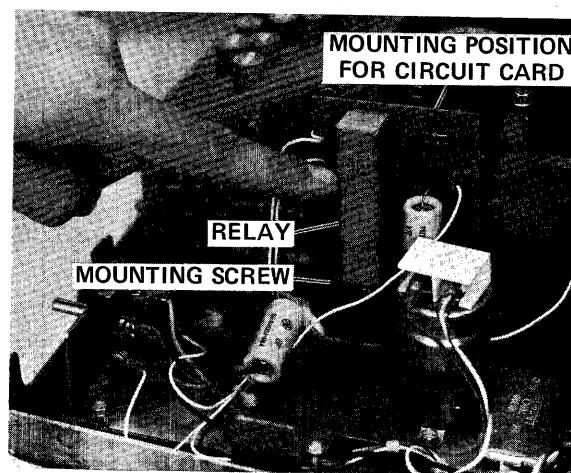
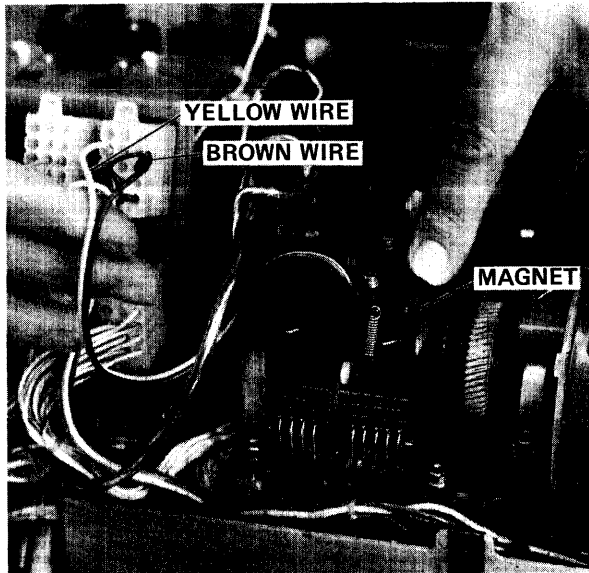

Figure 1. Relay Circuit (Alternate)
Figure 2. Distributor Trip Magnet
4. A relay circuit must be introduced into the paper tape reader drive circuit. The recommended circuit consists of a relay, a resistor, a capacitor and suitable mounting fixture. An alternate circuit utilizes a thyristor for suppression of inductive spikes. This change requires the assembly of a small "vector" board with the relay circuit on it. It may be mounted in the teletype by using two tapped holes in the mounting plate shown in Figure 1. The relay circuit may then be added without alteration of the existing circuit. (See Figures 2, 3, and 6.) That is, wire "A", to be connected to the brown wire in Figure 2, may be spliced into the brown wire near its connector plug. The "line" and "local" wires must then be connected to the mode switch as shown. Existing reader control circuitry within the teletype need not be altered.